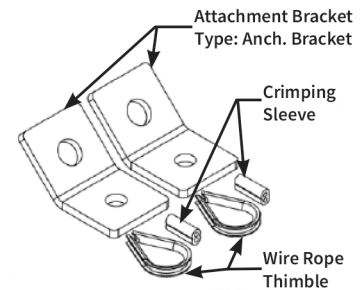

Fig 2.
- QTY= (2) Crimping Sleeves for Field Swaged Ends (Fig. 2)
- QTY= (2) Galvanized Heavy Duty Wire Rope Thimbles (Fig. 2)
- QTY= (2) Zinc-Plated Attachment Brackets (Fig. 2) - See Table 1 below for Bracket Types for different Models: